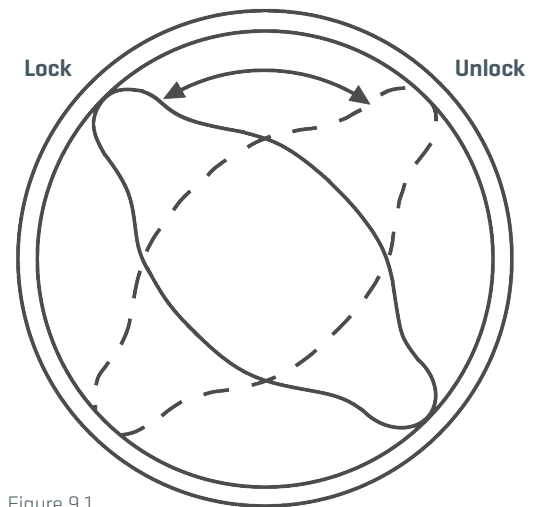

Figure 9.1
- **Orientation and distance of rotation:** The third factor to consider for ease of use, is how you would need to rotate your wrist, to operate the handle. If the handle requires you to rotate your wrist into an uncomfortable position, repeated use may result in a repetitive strain injury [RSI]. The best way to assess this, is to actually operate a physical sample of the handle you are considering, to confirm how comfortable it feels to lock/unlock. Detailed in figure 9.1, is the orientation of rotation, for the internal handle design we recommend. To emphasise this point, stand this page upright, line your fist up with the handle position, and rotate it from left to right, between the lock and unlock positions. This rotation should be comfortable for most users.